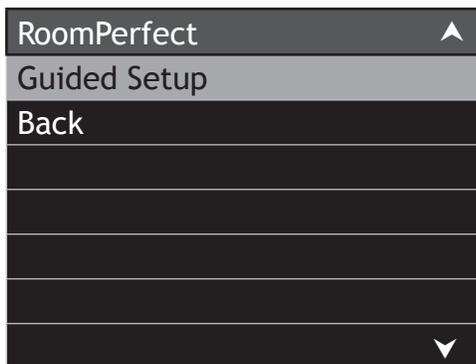
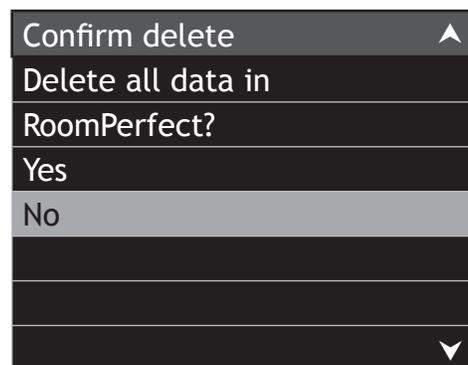
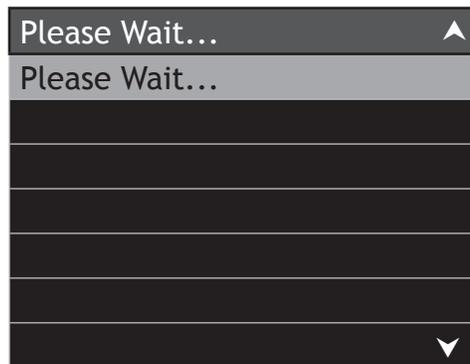

Figure 22
Figure 24
Figure 25
- Please Wait” will appear. Refer to figures 22 and 23. After a brief moment, Figure 24 will appear, select Yes and figure 25 appears briefly.